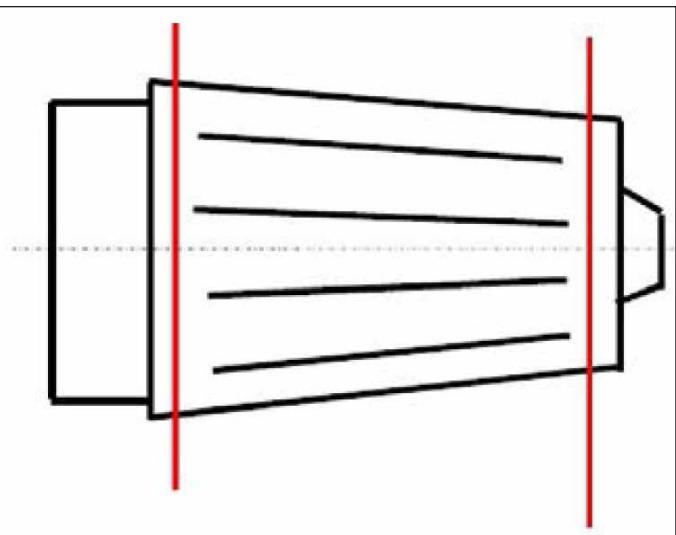

Figure 6—Ingot location of head and foot cuts.
**Forging.** The second important step concerning rough material is forging; the ingot is cut head and foot (Fig. 6).